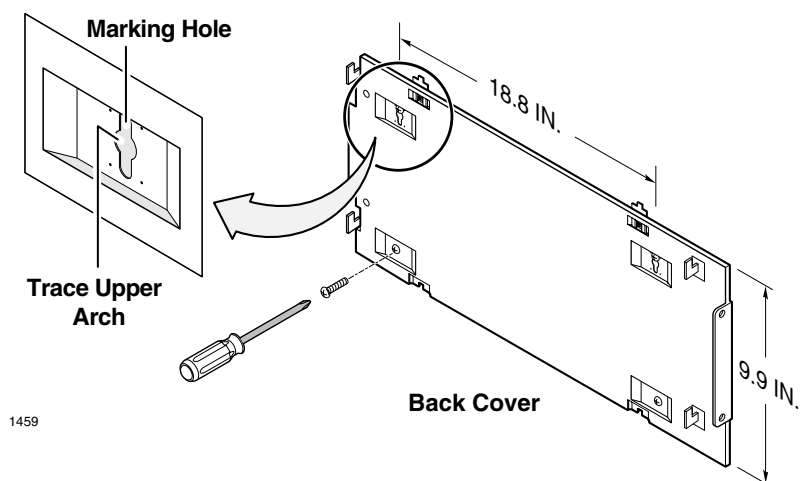

Figure 3-6 CTX670 Back Cover Mounting Holes
3. Hold the Base Cabinet back cover against the wall or backboard so that its two top mounting holes are approximately 1.98m (6.5 feet or 78 inches) above the floor. This allows up to seven cabinets to be installed (top-down) with a 15.2cm (six-inch) clearance between the floor and bottom cabinet (see Figures 3-6 and 3-7).